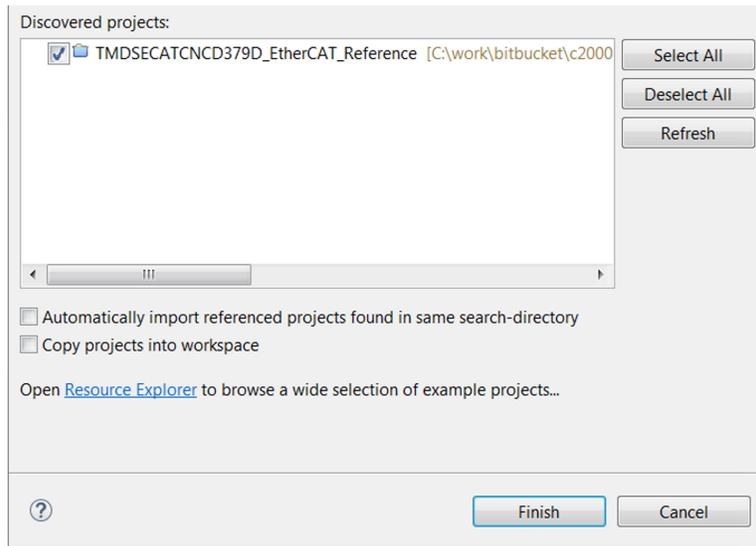

Figure 21. Discovered Projects
3. Navigate to the TMDSECATCNCD379D EtherCAT solution reference project folder and check it (see Figure 21).